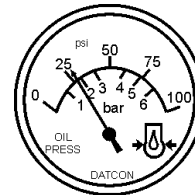

Figure 60. Oil Pressure Gauge
16. The engine oil pressure gauge (Figure 60) will indicate the oil pressure (kg/ cm²) of the engine. Under normal operating conditions the oil pressure is approximately 25 psi.